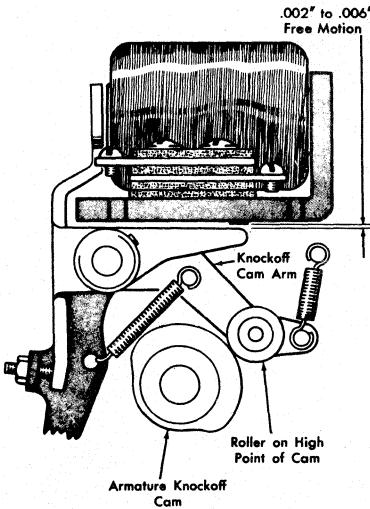

Figure 116. Magnet Armature Knock-Off
- Form stop arm on control magnet armature assembly to allow free motion of .002-inch to .006-inch when armature knockoff roller is on high dwell of its cam (Figure 116).